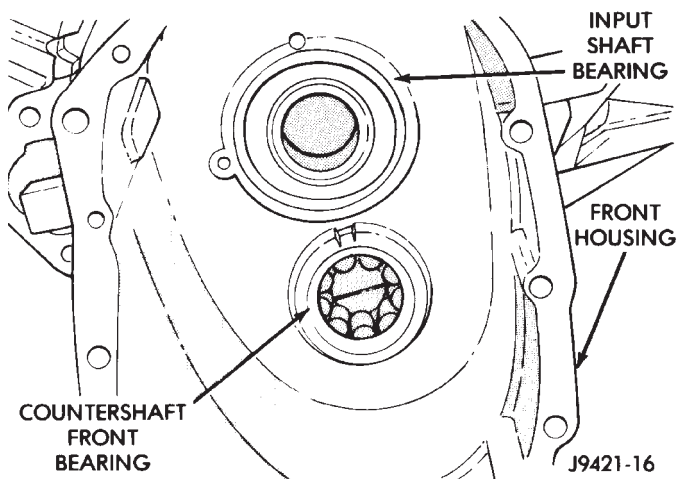

Fig. 18 Input Shaft And Countershaft Front Bearing Location
(15) Remove input shaft bearing and countershaft front bearing from front case (Fig. 18). Countershaft bearing can be removed by hand.